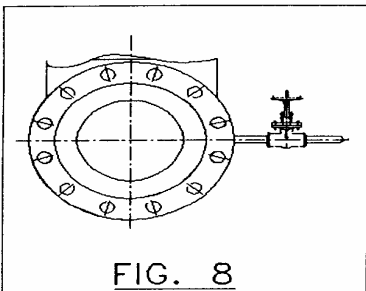

FIG. 8
- *Figure 8* ► it represents a by-pass.
In the case of figures 8 and 10 the gate valve is unidirectional (see page 5 of 14).